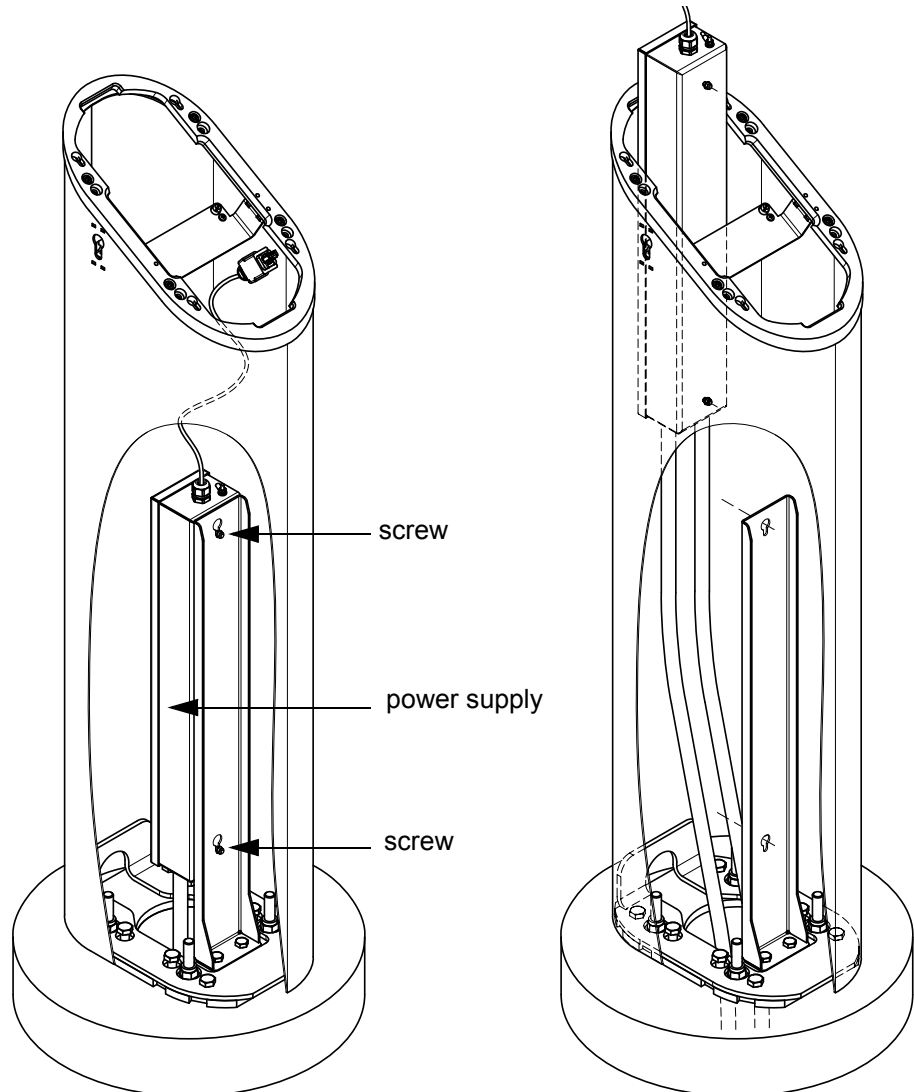

Figure 5-27 Accessing the Power Supply
5.10 Accessing the Power Supply After removing the main unit as described in section 5.9.1, it is necessary to access the power supply junction box. Use **Figure 5-27** for reference.